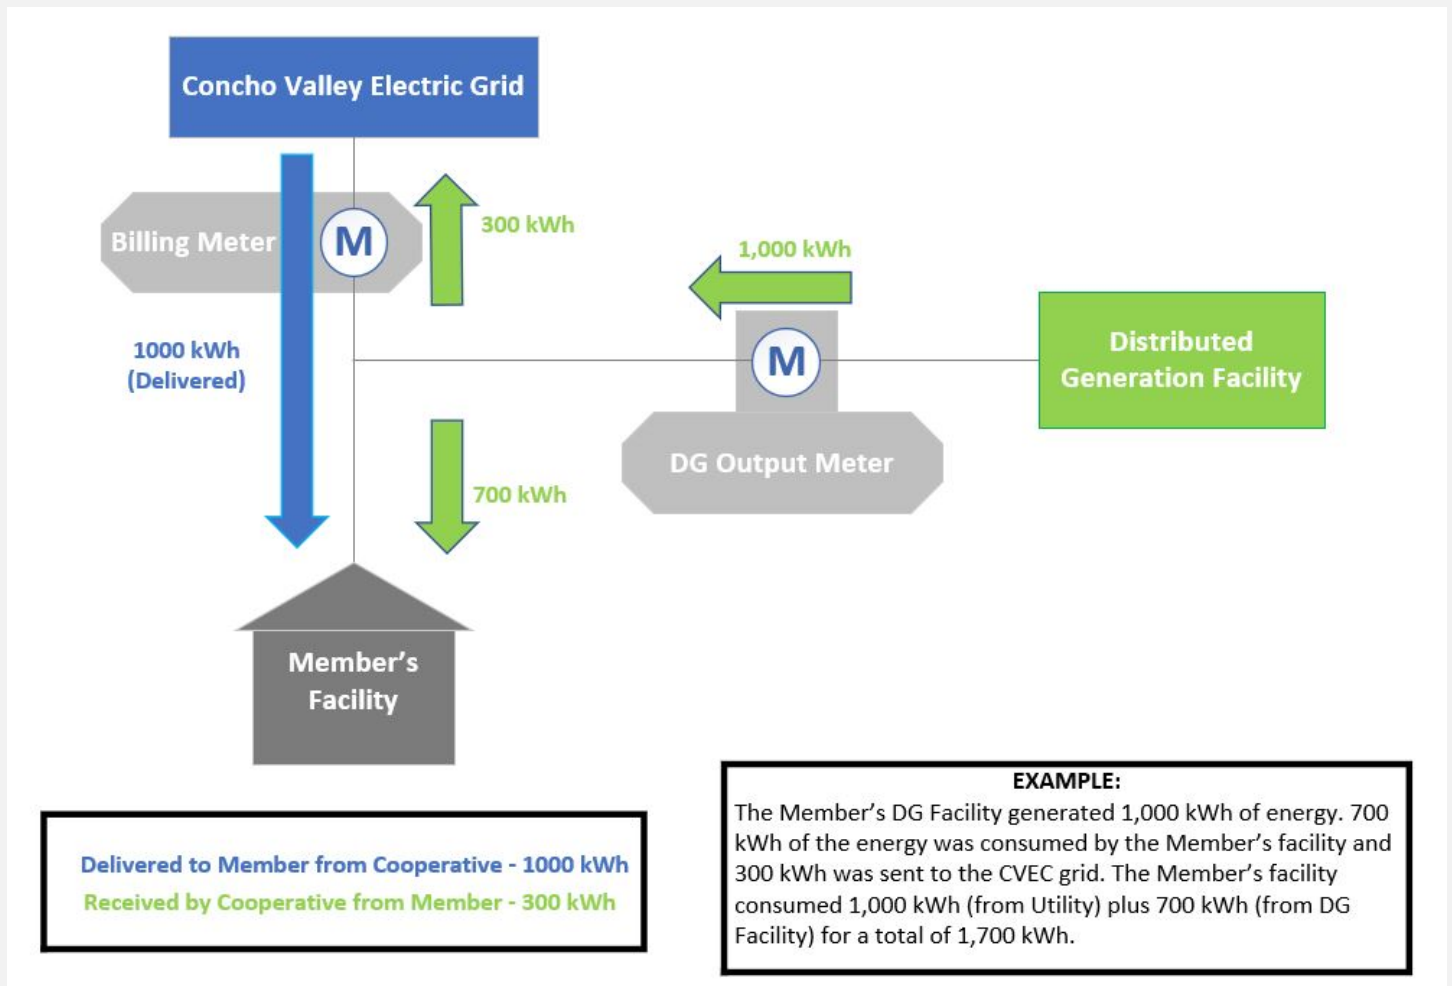

Figure 3.
Energy generated by your DG Facility first flows through CVEC's Distributed Generation (DG) output meter and then into your home. When your DG Facility is producing more than your home can consume, the excess will flow back to the CVEC grid. This will be labeled as "Received" on your bill. The power consumed from the CVEC grid will be labeled "Delivered" (Figure 3).